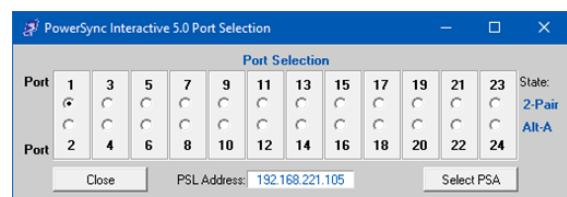

Figure 4.2 PSA Interactive Slot-Port Panel
- The Port Selection Panel (see **Figure 4.2**)
As described earlier in section 3.1, each test port can be configured for 2-Pair or 4-Pair PSE interfacing. When a selected test port is in a 2-Pair configuration, the port **State** is indicated as **2-Pair Alt-A** (see **Figure 4.2**) or **2-Pair Alt-B**. See Section 0 below for information regarding the configuration of a test port **State**. If different test ports are in different states, then this indicator will update as ports are selected.